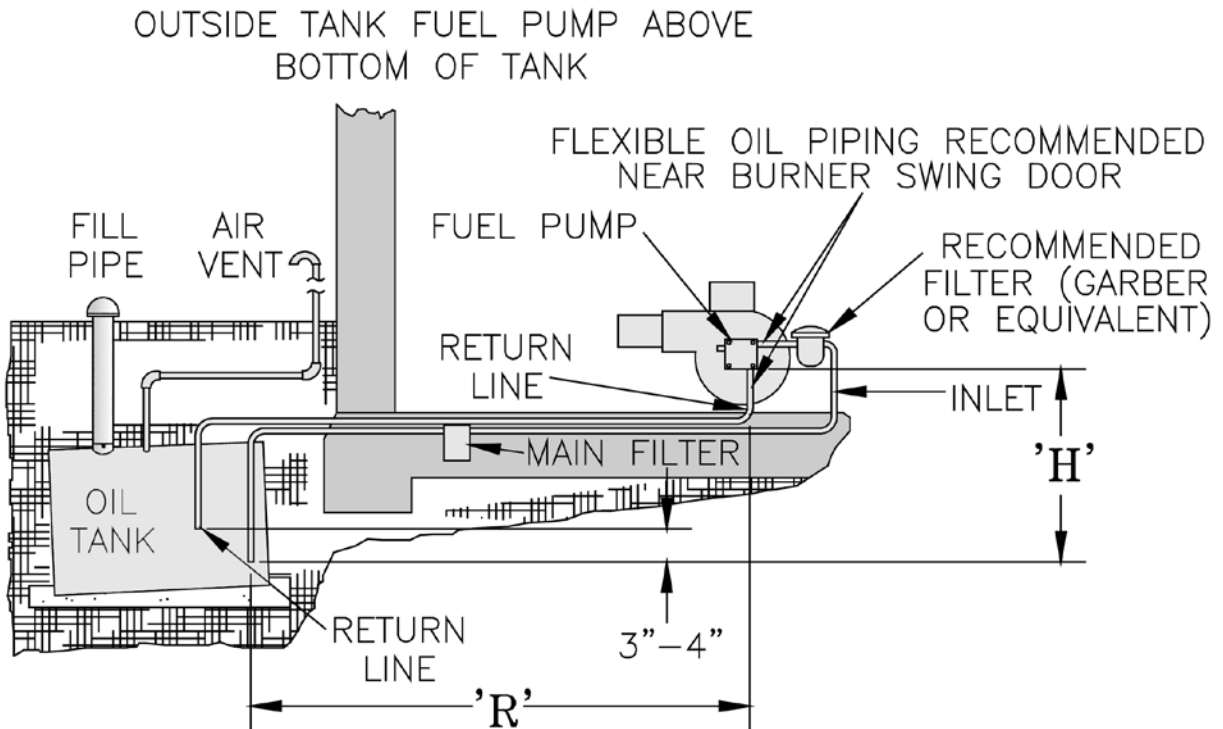

Figure 19: Two-Pipe Installation
1. For two-piped systems, where more lift is required, the two-stage fuel unit is recommended. Table 2 (single-stage) and Table 3 (two-stage) show allowable lift and lengths of 3/8 inch and 1/2 inch OD tubing for both suction and return lines. Refer to Figure 19.